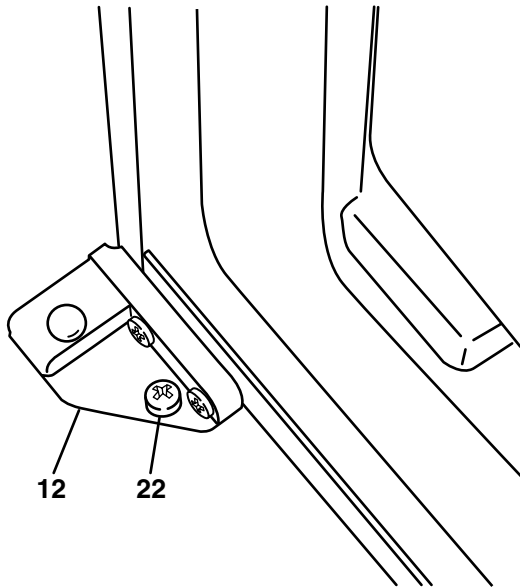

Figure 20
7. Attach appliance to the floor of the kitchen cabinet by threading screws (**Fig. 20, 22**) through bottom brackets (**Fig. 20, 12**).